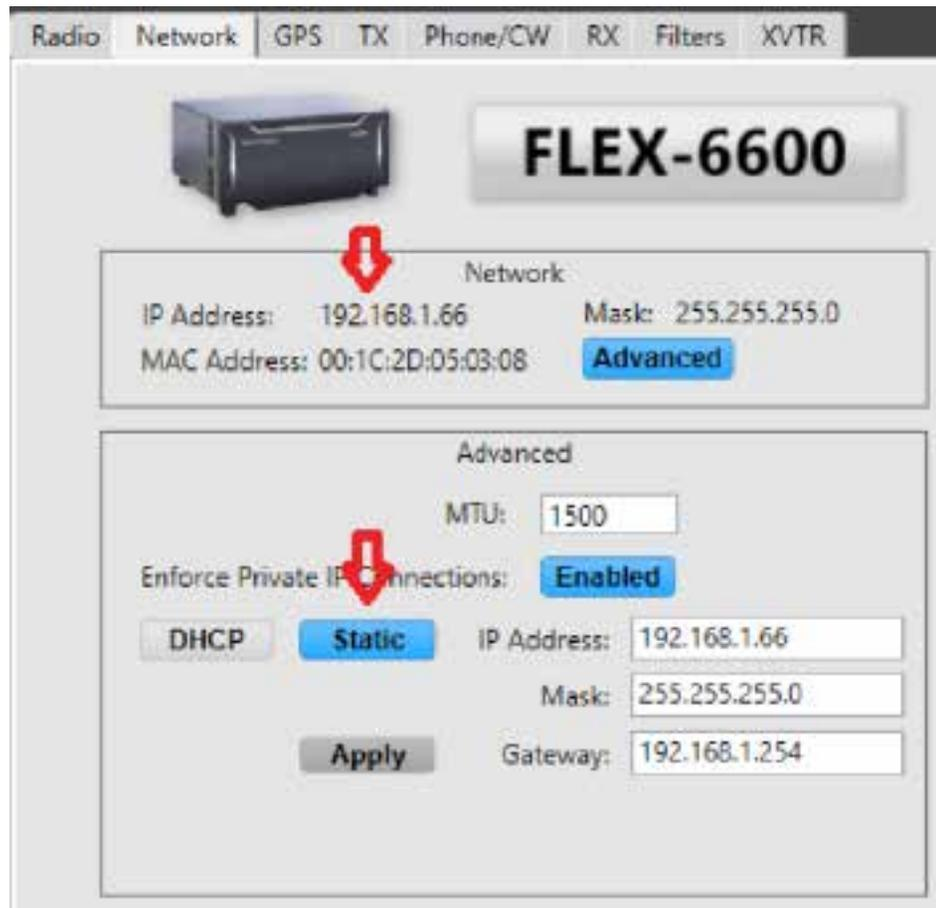

Figure 1. Setting up the FlexRadio to use a static IP address.
STEP 1. Set up SmartSDR (it should be running on the Windows- based computer and connected to the radio). Using the menu Settings -> Radio Setup... Set up a Static IP Address and make note of it; in this case I have set up 192.168.1.66 as the FlexRadio’s local IP address (see Figure 1).